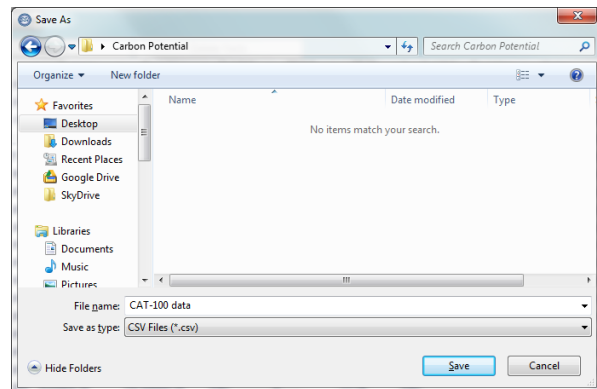

Figure 56 - Saving CSV file in CAT-100 View
1. Save the CAT-100 data to a CSV file using the **Export Tests to CSV** option in CAT-100 View (see example in Figure 56).